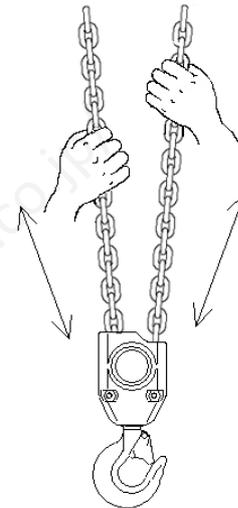

Fig.8
- (2) Keep Load chain clean and well lubricated.
- (3) Check Load hook is not stretched or damaged and Hook latch is in the normal position.
- (4) Check Chain wheel in Hook block rotates smoothly (See Fig. 8).
- (5) Check the support bearing of Load hook is not damaged, and swivels easily and smoothly.
- (6) Check the trolley wheels track the rails properly and the wheels and rails are not worn.
- (7) Check the lifting sling (suspension fastening) is not damaged or worn.